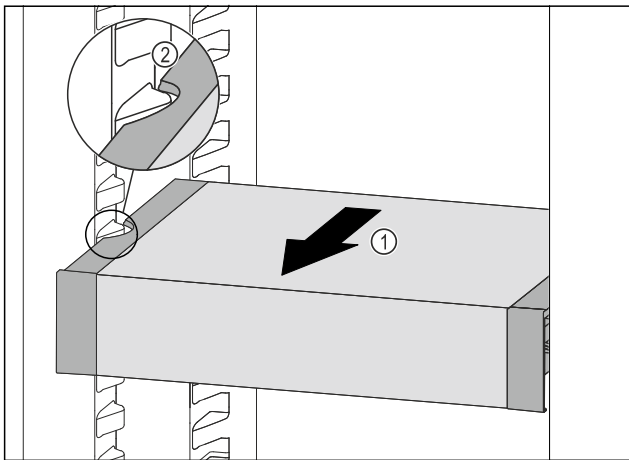

Fig. 55
- Pull VarioSafe forwards Fig. 55 (1) until the recesses in the side of the VarioSafe are at the level of the support rib in the refrigerator compartment. Fig. 55 (2)